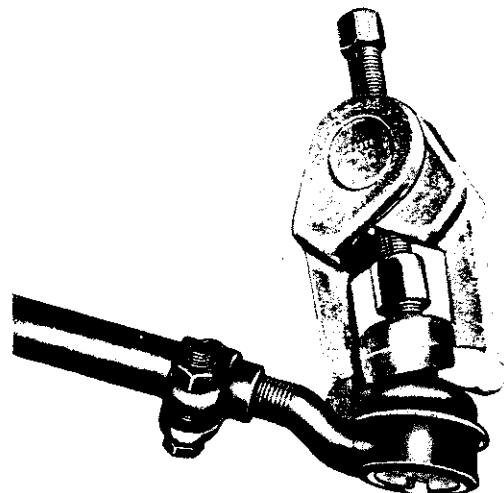
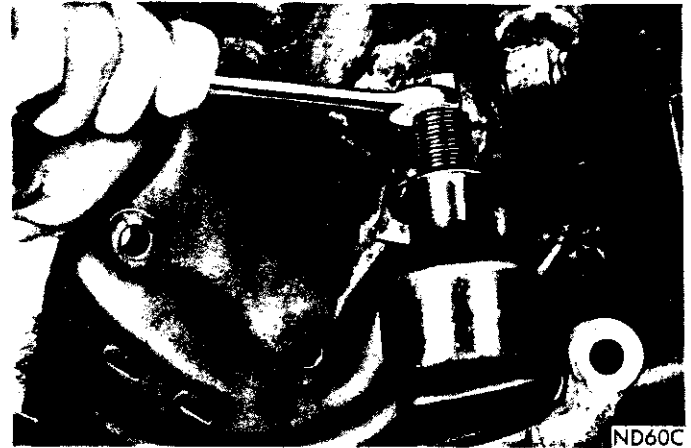

Fig. 8—Removing Tie Rod End Stud from Steering Knuckle Arm
Fig. 13—Removing Lower Ball Joint Stud (Dart)
- (1) Remove tie rod ends from steering knuckle arms (Fig. 8). **Use care not to damage seals.**
- (2) Remove inner tie rod ends from center link.
- (3) Remove idler arm stud from center link.
- (4) Remove idler arm bolt from crossmember.
- (5) Remove steering gear arm stud from center link.
- (1) Remove the wheel, tire and drum as an assembly.
- (2) Remove lower shock absorber attaching bolt and push up and out of way, and remove torsion bar from lower control arm.
- (3) Remove tie rod end from steering knuckle arm using Tool C-3894 (Fig. 8). **Use care not to damage seal.**
- (4) Remove sway bar link from lower control arm.
- (5) Remove steering knuckle arm to brake support bolts and remove steering knuckle arm. Move brake support assembly out of way.
- (6) Remove ball joint stud from lower control arm using Tool C-3964 (Fig. 13). The bottom portion of tool must be positioned between seal and control arm to avoid seal damage.
- (1) Remove upper control arm rebound bumper.
- (2) Raise vehicle so front suspension is in full rebound. Remove all load from torsion bar by turning adjusting bolt counterclockwise. If jacks are used to raise vehicle it is essential that a support be used between the crossmember and jack.
- (3) Remove wheel, tire and drum as an assembly. It may be necessary to back-off the brake shoes to facilitate removal of drum assembly.
- (4) Remove two lower bolts from the brake support attaching steering arm and ball joint assembly to steering knuckle.
- (5) Remove tie rod end from steering arm using Tool C-3894. **Use care not to damage seal.**
- (6) Using Tool C-3964 remove ball joint stud from lower control arm (Fig. 13), and remove steering arm and ball joint assembly.